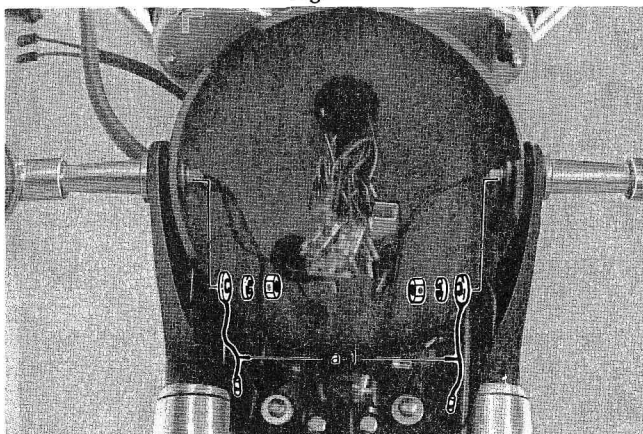

Fig. 34
27. Install the right and left flasher lamp assemblies and negative lead wires (a-1) using two spring washers and nuts which were used for temporary installation. (Fig. 34)